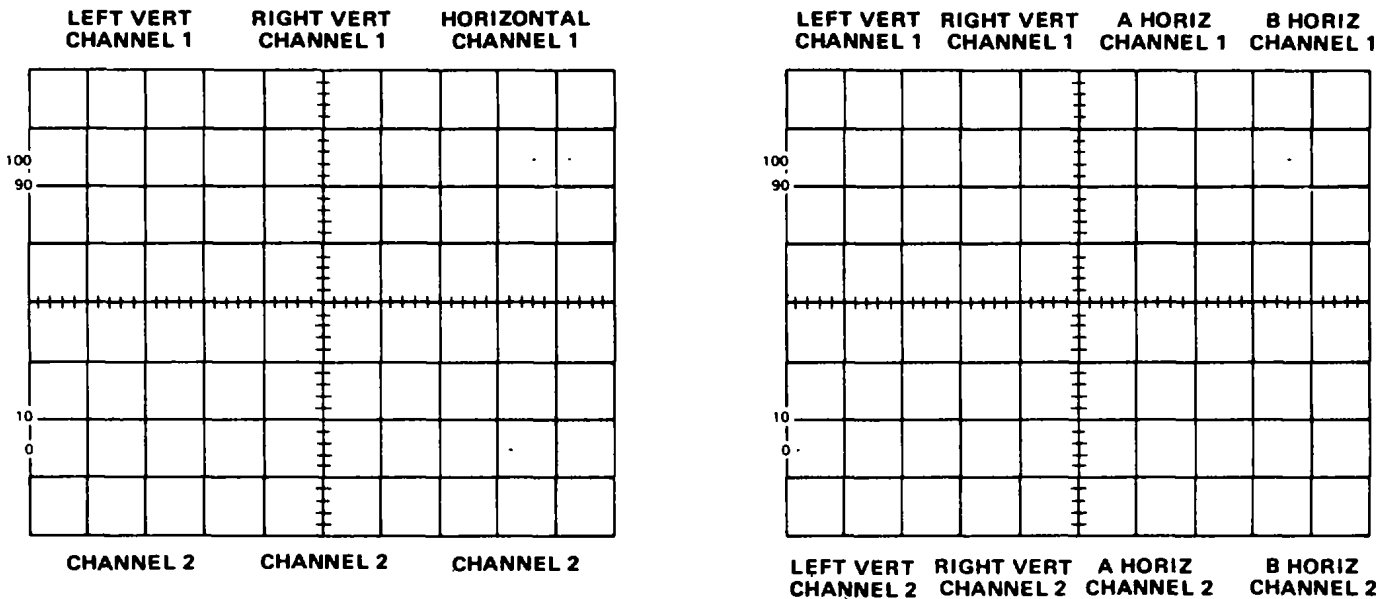
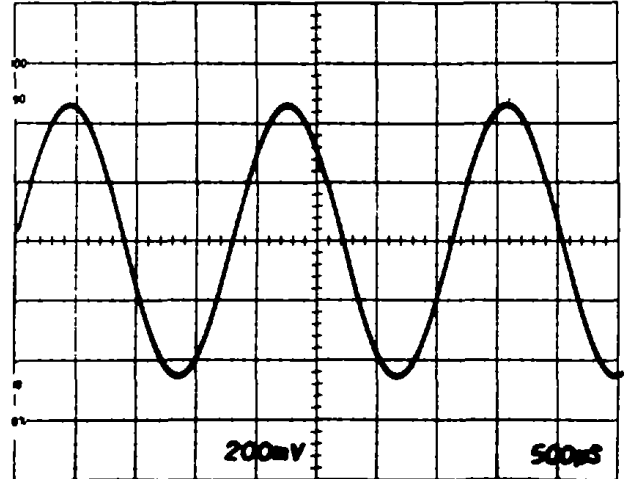

Figure 3-24. Location of readout words on the crt identifying the originating plug-in unit and channel (one complete frame shown).
Figure 3-26. Typical readout display where only channel 2 of the Tight Vertical and Horizontal units is displayed.
Frame-A frame is a display of all words for a given operating mode and plug-in combination. Up to ten character words (six words in 3-compartment mainframes) can be displayed in one frame. Figure 3-24 shows the position of each word in a complete frame.
Up to eight words (six words in three compartment mainframes) of readout Information can be displayed on the crt. The position of each word is fixed and is directly related to the plug-in unit from which it originated. Figure 3-24 shows the area of the graticule where the readout from each plug-in unit is displayed. Notice that Channel 1 of each plug-in unit is displayed within the top division of the crt and Channel 2 is displayed directly below within the bottom division. Figure 3-26 shows a typical display where only Channel 2 of the Right Vertical and the Horizontal units is selected for display.
The Format Generator stage provides the output signals to the vertical and horizontal deflection systems of the instrument to produce the character display. The binary Channel Address Code from the Channel Counter stage is connected to this stage, so that the display from each channel is positioned to the area of the crt associated with the plug-in and channel originating the word (see Figure 3-24). The positioning current or decimal point location current generated by the Decimal Point Logic and Character Position Counter stage is added to the Horizontal (X) signal at the input to the Format Generator stage to provide horizontal positioning of the characters within each word. The X- and Y-Readout signals are connected to the Horizontal Amplifier and Vertical Amplifier through the X- and Y-Buffer stages.